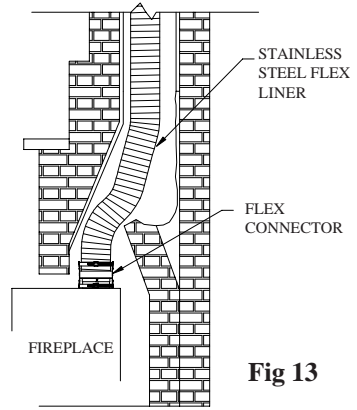

Fig 13
Step 5. After the Flex Liner is pulled through the damper area, attach the Flex Connector (be sure the Flow arrow points up, the direction of the exhaust flow) to the Flex Liner and tighten the fast connect band. Position appliance, then insert Flex Connector into the flue outlet on top of the fireplace insert, tighten the fast connect band directly to appliance outlet or collar. To further insure the connection between the Liner and the Appliance, use (2) 3/8" screws to secure the Flex Connector to appliance outlet, penetrating through both the band and appliance outlet (**Figure 13**).